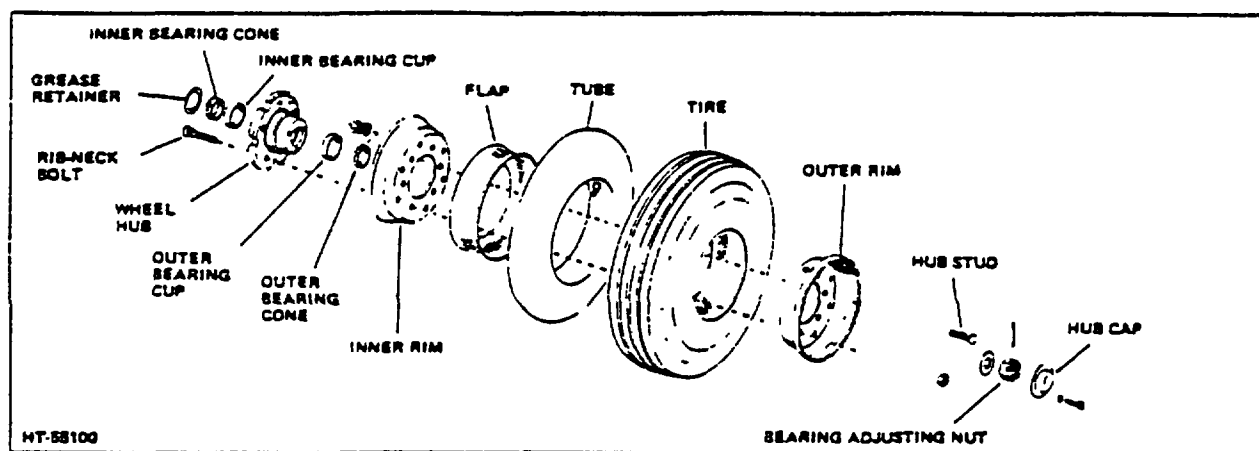

Figure 37. Steer Wheel Assembly (Pneumatic Tire)
2. Remove the nuts and lockwashers attaching the rims to the bolts in the wheel hub. (See Figure 37.)
2. To remove the steer wheel tire, tube and flap, remove the (6) six bolts, nuts and lockwashers (inside the inner rim) and separate the inner and outer rims. (See Figure 37.)
3. Place a circular ram (Fig. 37) on the press table. The length of the ram must be longer than the width of the old tire that is to be removed to allow complete removal of old tire. The outside diameter of the ram must be small enough to fit loosely in the insert of the tire, but must be large enough to rest squarely on the flat surface at the outer edge of the wheel.